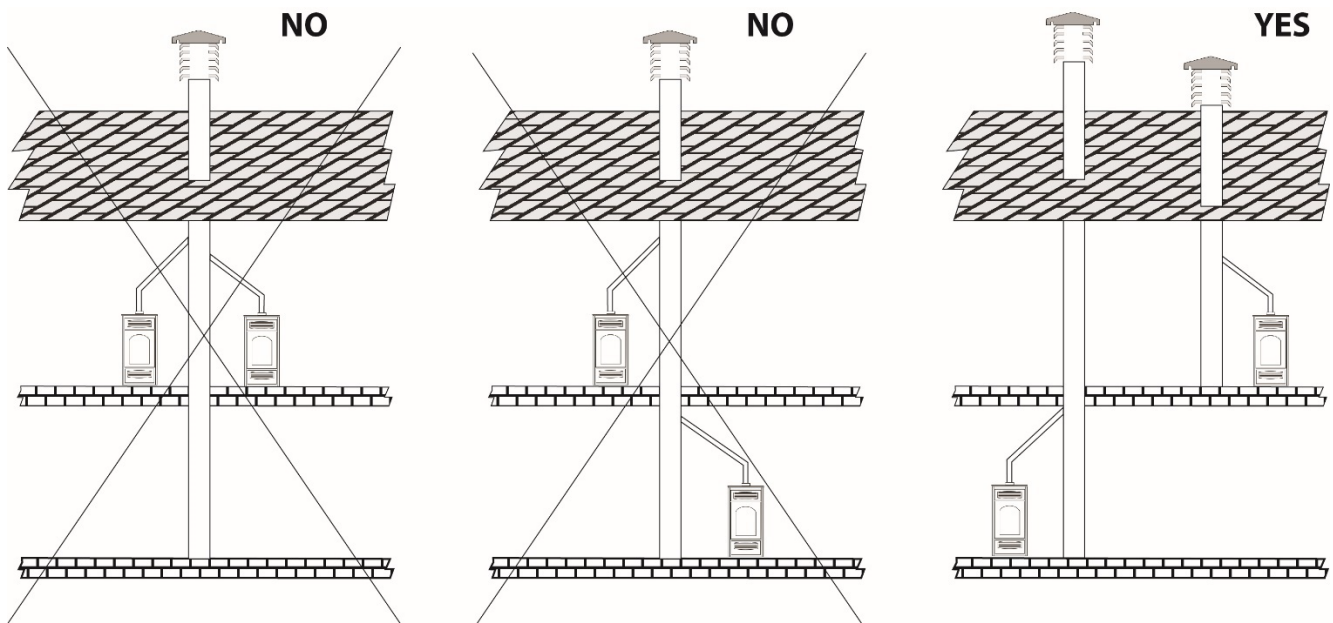

Fig.1
- It should not be connected to any other fireplace, fireplace, boiler, or hood of any kind (*Fig. 1*).